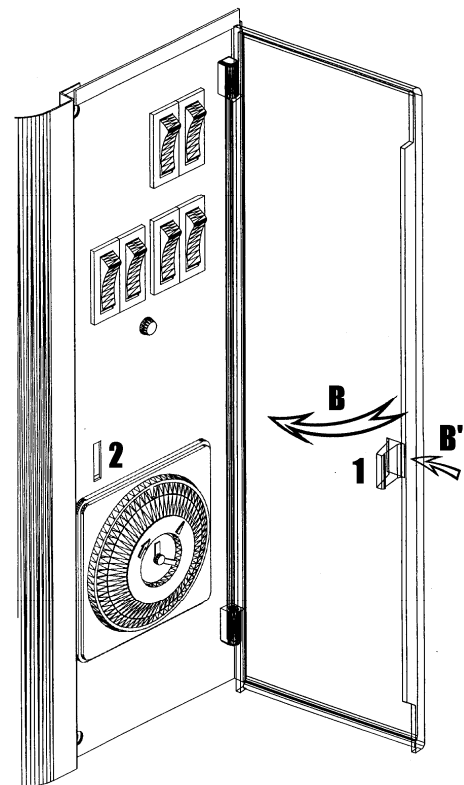

Figure 11
To close the cover (arrow **B'**), push on the front (arrow **B**) until the clear plastic part (1) snaps closed (**Fig. 11**).